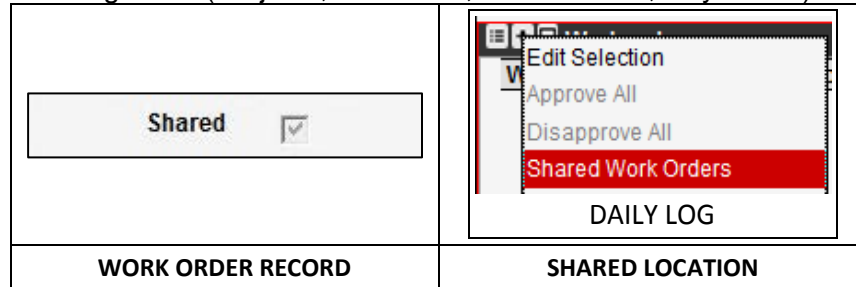

Figure 4-6. Work Order Shared Field Update
- If shared locations wish to record labor activities against the Work Order, those locations must use the **Daily Log** window (per Figure 4-6) rather than the **Day Cards** window, to select the Work Order and record LEM.
- A checkmark appears next the Shared field of the Work Order (Figure 4-6) to signify that another location has been authorized.